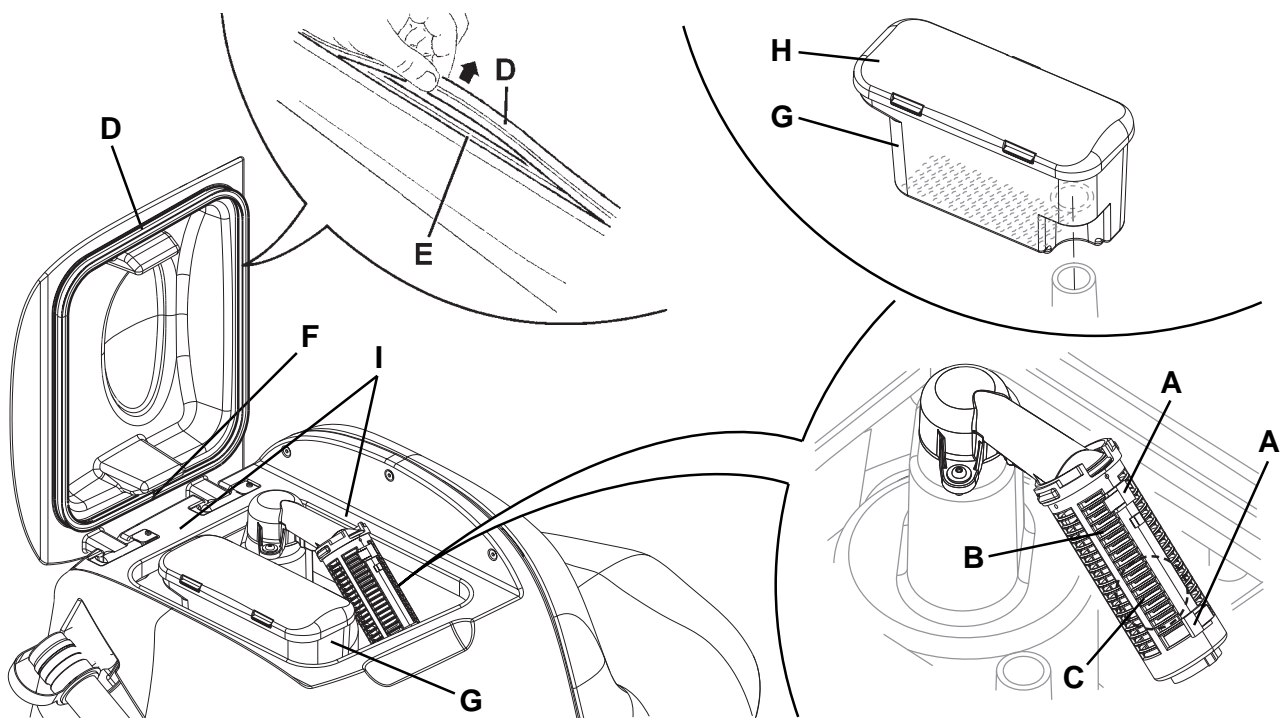

Figure 8
2. Turn the ignition key (58) to "0".
3. Open the cover (20).
4. Wash the cover (20) and the tank (19) with clean water.
- Drain the water in the tank through the hose (24).
5. Clean the vacuum grid (27), release the fasteners (A, Fig. 8), open the grid (B) and recover the float (C) then clean carefully and reinstall.
6. Clean the container with debris collection grid (26), remove the container (G), remove the cover (H), then clean carefully and reinstall the vacuum hose.
7. Check the tank cover gasket (D) for integrity.